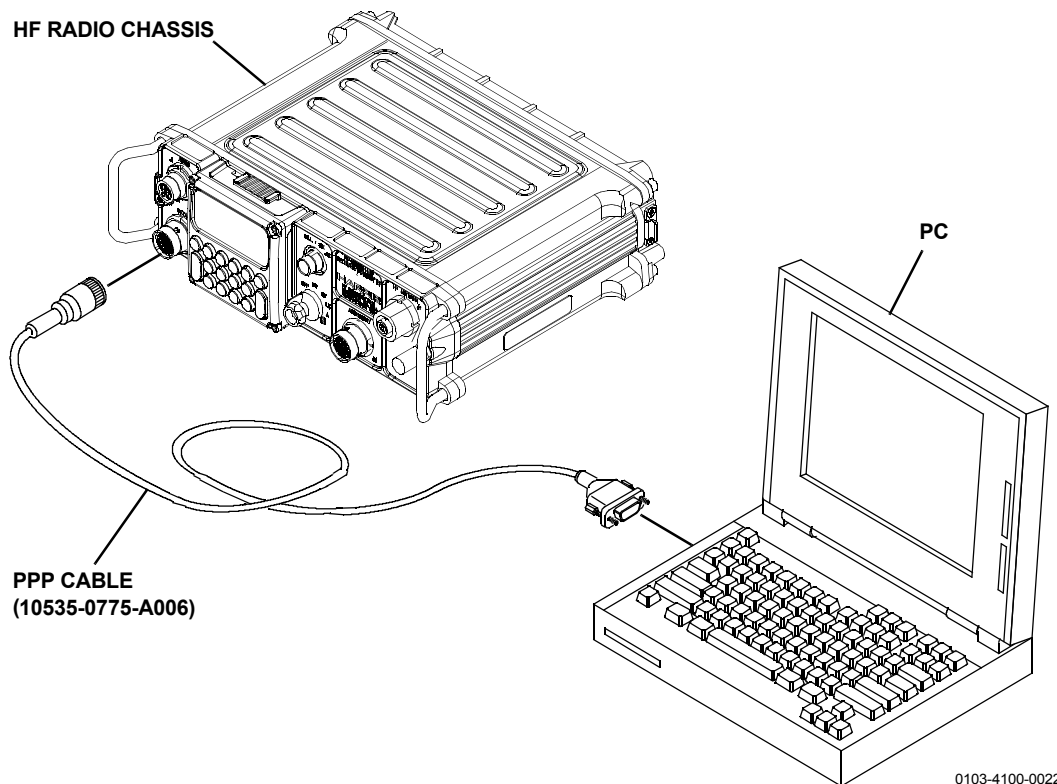

Figure 4-1. Typical PC to AN/PRC-150(C) PPP Port Connection
To connect the AN/PRC-150(C) to a PC running the RPA, see Figure 4-1 and perform this procedure: